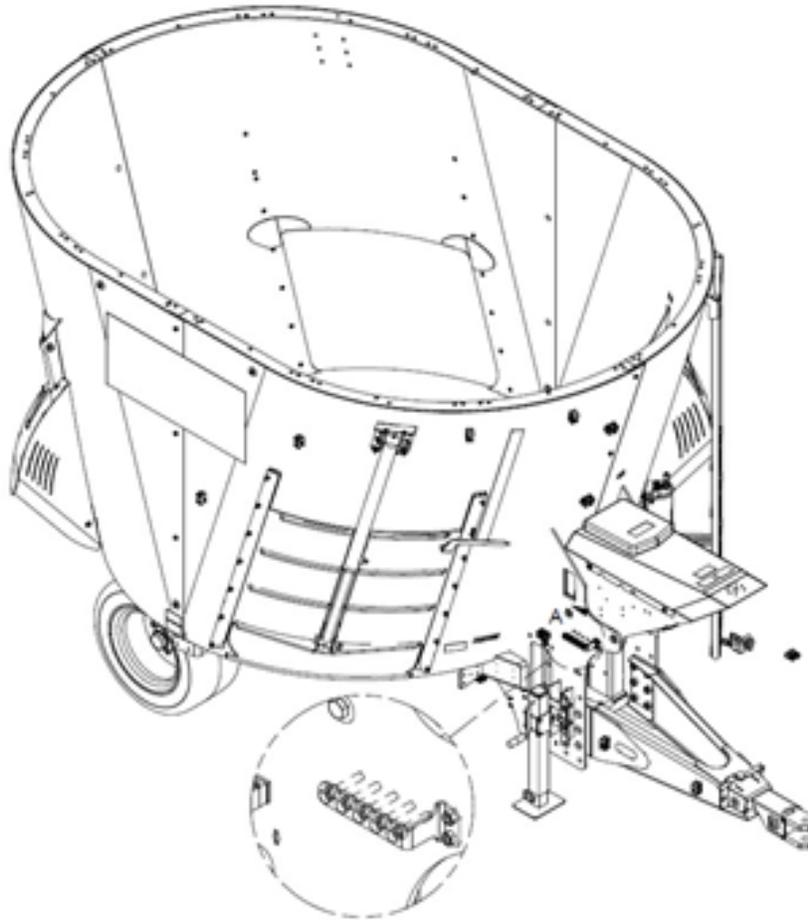

Figure 36 — Location of the Shear Bolts on the A280 and A380 SMARTMIX
3. Insert a new bolt (available on the spare bolt support) (Figure 36) (see Table 17 — Power Take-Off (PTO) Shear Bolts in "Appendix A — SMARTMIX maintenance summary tables" on page 132 for the type of shear bolt to use for your mixer model).